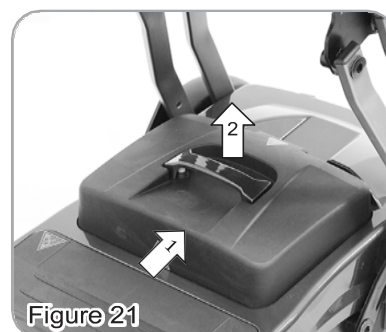

Figure 21
- The battery box is designed for a better stability. Please follow the instruction to disassemble the battery box (Figure 21). Push the battery backwards (1.) and pull it upwards (2.).